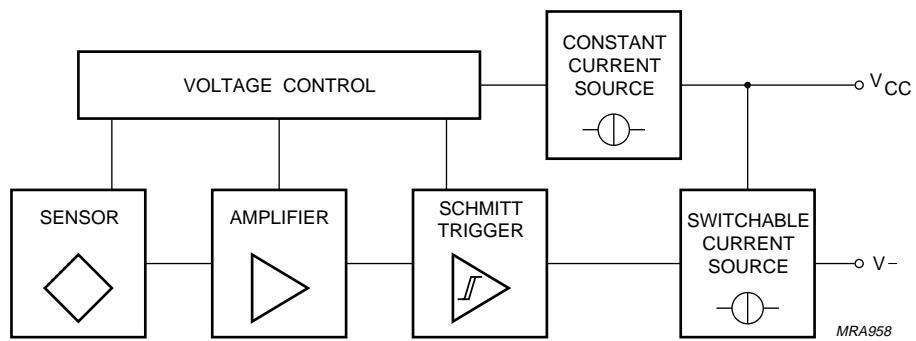
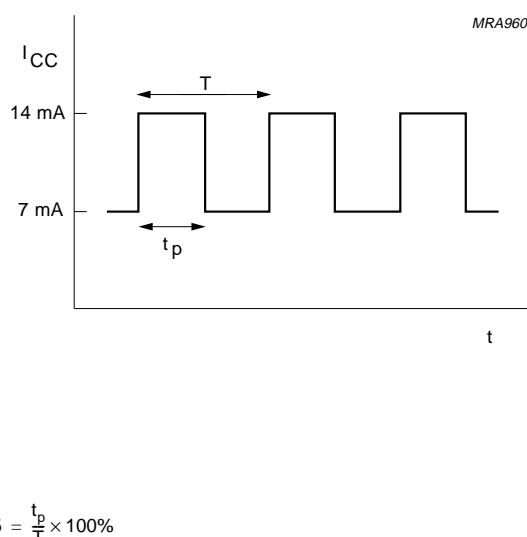
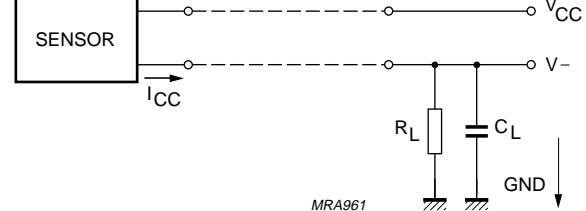

Fig.4 Block diagram.
Fig.6 Output signal as a function of time.
Fig.7 Test and application circuit.
- With R_L = 115 Ω the device is continuously protected against wrong polarity of DC supply voltage (V_{CC}) to GND (see Fig.7).
T_{amb} = 25 °C; V_{CC} = 12 V; d = 1.5 mm; f_t = 2 kHz; test circuit: see Fig.7; R_L = 115 Ω; sensor positioning: see Fig.15; gear wheel: module 2 mm; material 1.0715; unless otherwise specified.
The magnetoresistive sensor element signal is amplified, temperature compensated and passed to a Schmitt-trigger in the conditioning integrated circuit (Figs 4 and 5). The digital output signal level (see Fig.6) is at a fixed level independent of the sensing distance. A (2-wire) output current ensables safe sensor signal transport to the detecting circuit (see Fig.7). The integrated circuit housing is separated from the sensor element housing to optimize the sensor behaviour at high temperatures.